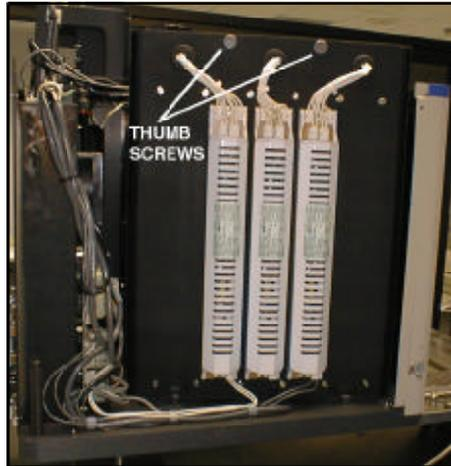

Figure 6-3. Erasure lamp panel top thumb screws.
- a) Remove the top two thumb-screws, Figure 6-3.